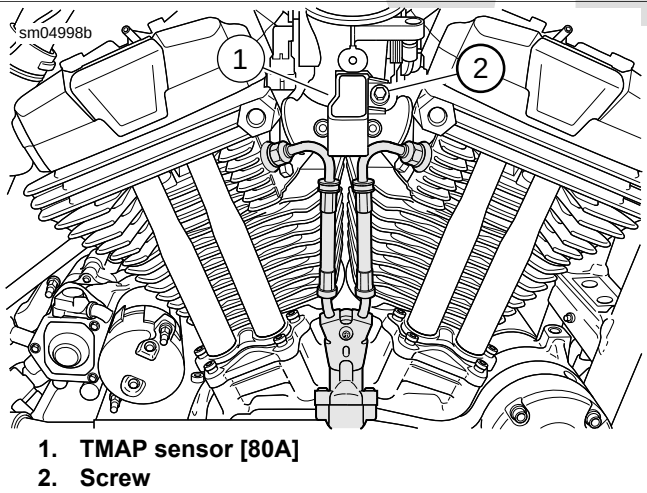

Figure 4-61. TMAP Sensor: XR 1200X
2. Remove screws (3) and the wire form (1) and induction module fastener (2).
- 5. See Figure 4-61. Remove screw (2).
- 6. Grasp TMAP sensor (1) and with a gentle twisting motion, pull sensor straight up out of induction module body.